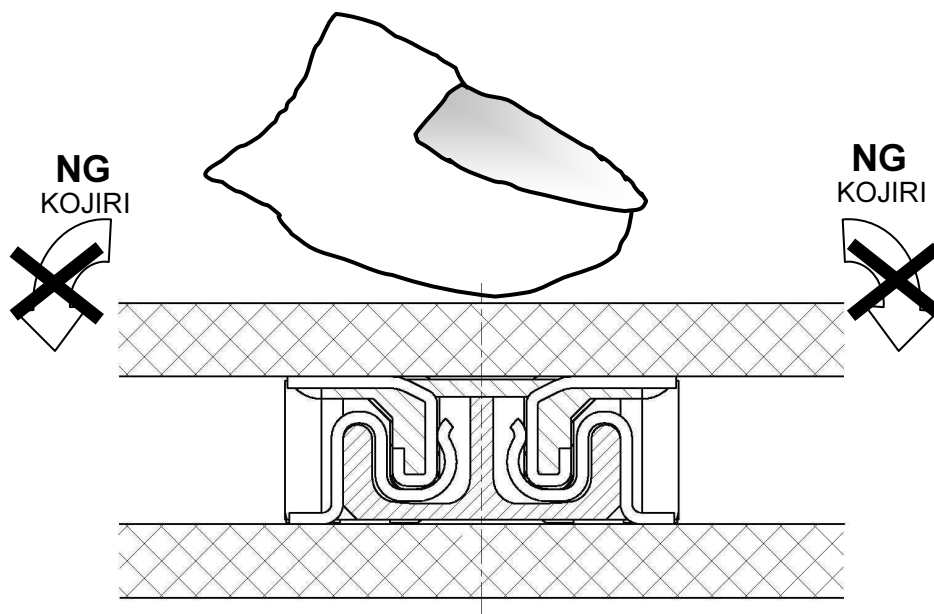

Fig.2
2. コネクタ嵌合の際、REC、PLUG 共出来る限り、実装された基板面の裏側を押しコネクタをこじらずに嵌合して下さい。(Fig.2)
2. In the case of Connector mate, it mates Connector so that power should be applied in the Connector mate direction without KOJIRI motion by REC and PLUG Connector the reverse-side of the board. (Fig.2)